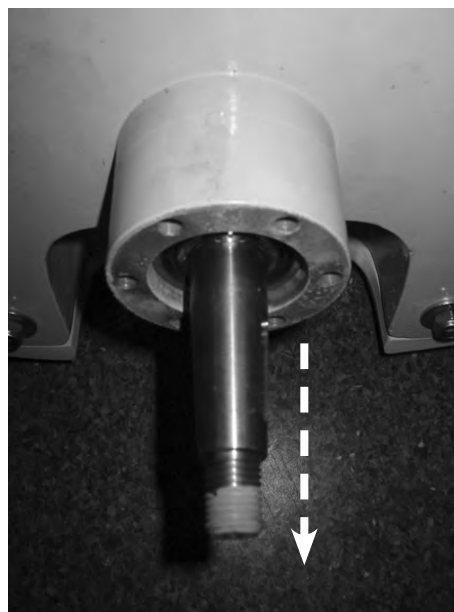

Figure 2.1.1.1-3
The bearing (figure 2.1.1.1-4) consists of a thrust bearing that receives the pure axial force (A) and an angular ball bearing that carries radial loads (C). The plate (B) between the bearings transmits thrust from the thrust bearing to the outer race of the angular ball bearing.